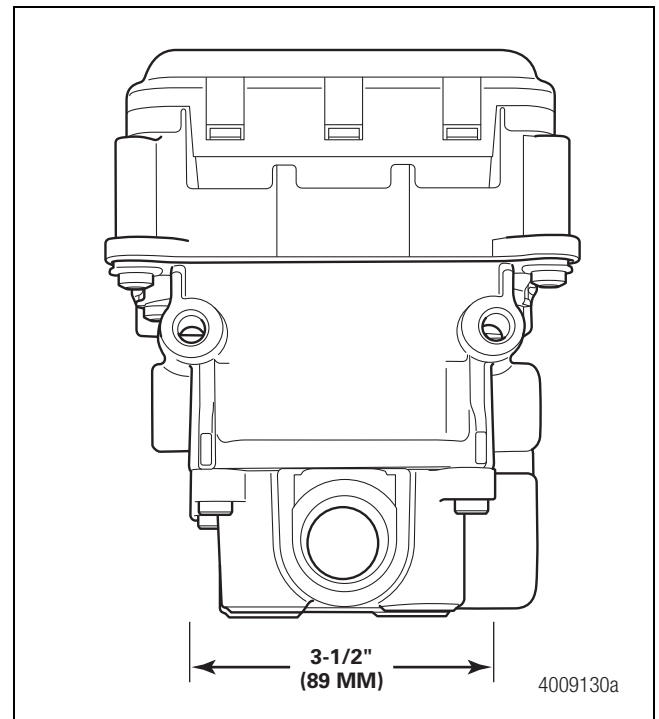

Figure 7
- Drill two 1/2-inch (13 mm) mounting holes. The center-to-center distance between the two holes must be 3-1/2-inches (89 mm) and mount directly to a rigid structure. Figure 7.